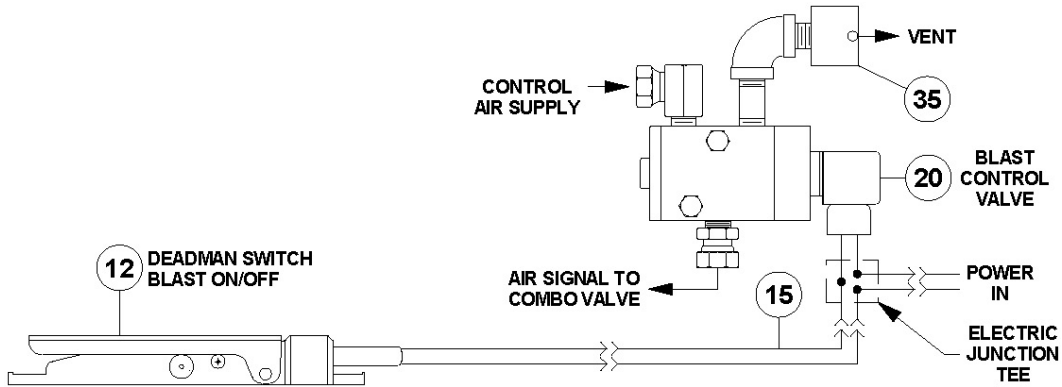
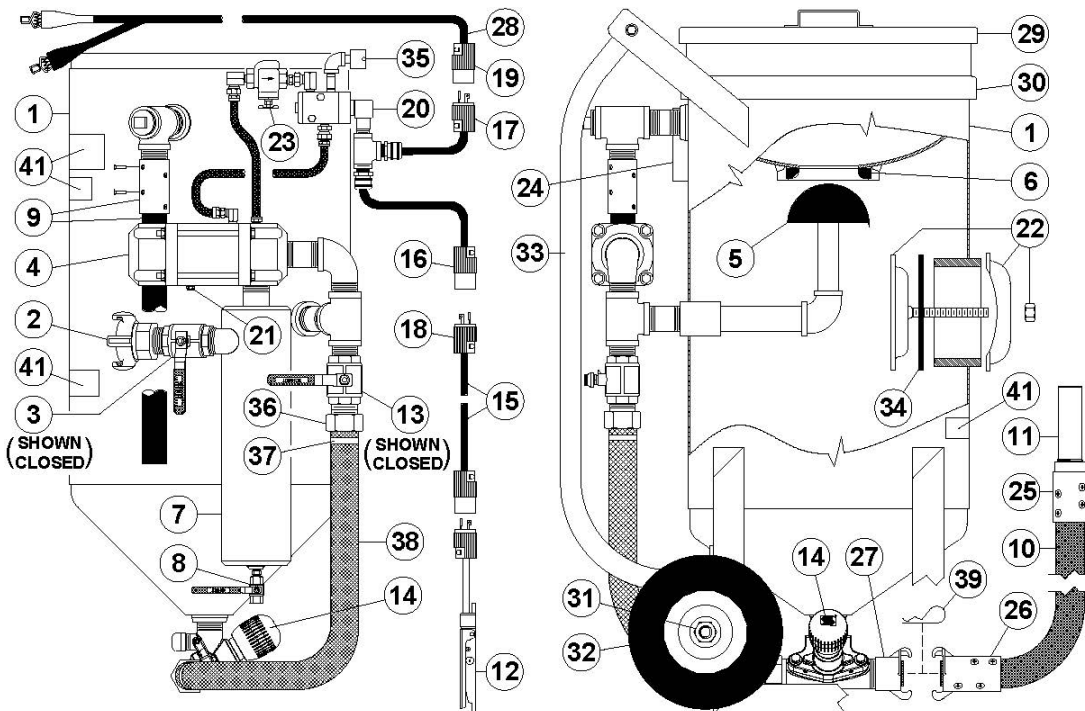

Figure 5.4 – MV2 Valve Electric Deadman Blast Control System
Figure 5.5 – MV2 Valve Abrasive Blaster with electric blast controls
5.8.2. **Electric Deadman System:** When the electric deadman lever (#12) is pressed down it closes the electric circuit and supplies electric current to the control valve (#20). The control valve opens and sends air signals to the Combo Valve (#4) to begin blasting. When the deadman lever is released the electric circuit is turned off closing the control valve. The signal air vents from the breather (#35) and the Combo Valve closes to stop blasting. See Figure 5.4, Figure 5.5 and the drawing in Section 9.3.
Figure 5.5 shows a MV2 Valve abrasive blaster with the electric deadman system. The popup valve, MV2 Valve, and Combo Valve operate the same as a blaster with a pneumatic blast control system. The difference is that the electric control system uses an electric control valve (#20) operated by the electric deadman switch as detailed in Section 5.8.2.